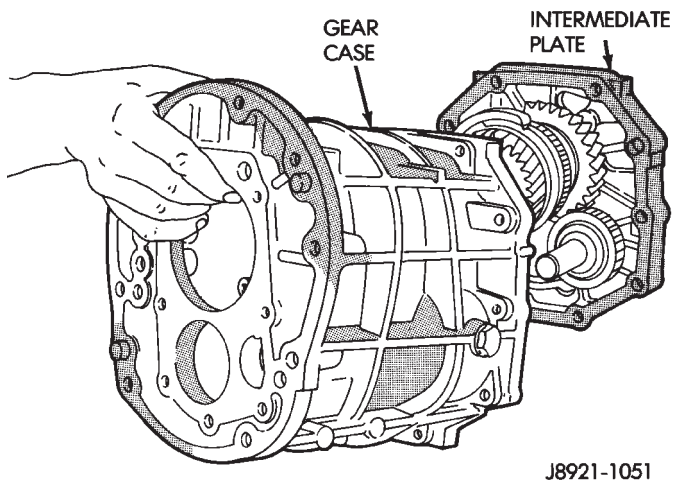

Fig. 35 Remove Intermediate Plate from Transmission Case
- (24) Separate the intermediate plate from the transmission case (Fig. 35).